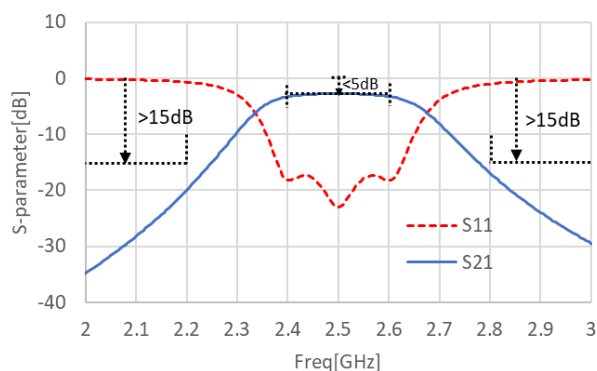

Figure 1 Target specifications of S21
- (b) Insertion loss : The filter should have less than 5 dB insertion loss over the above mentioned frequency range. (Figure 1)
- (d) Rejection : The filter should satisfy rejection characteristics shown below. (Figure 1)